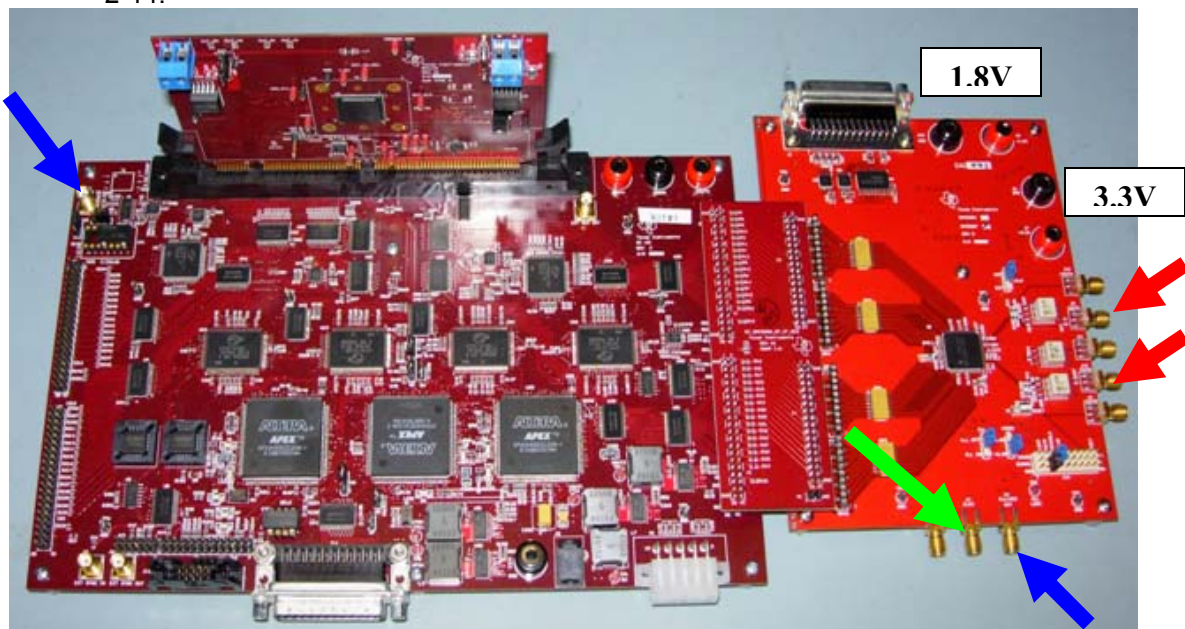

Figure 2-14. GC101, GC1115 Daughtercard, Interface Card and DAC5687 EVM.
- 1) With all power sources turned OFF, connect the headers on the right-side of the GC101 motherboard, through the provided interface card, to the headers on the left-side of the DAC5687 evaluation module. The interface card and connections are illustrated in Figure 2-14.